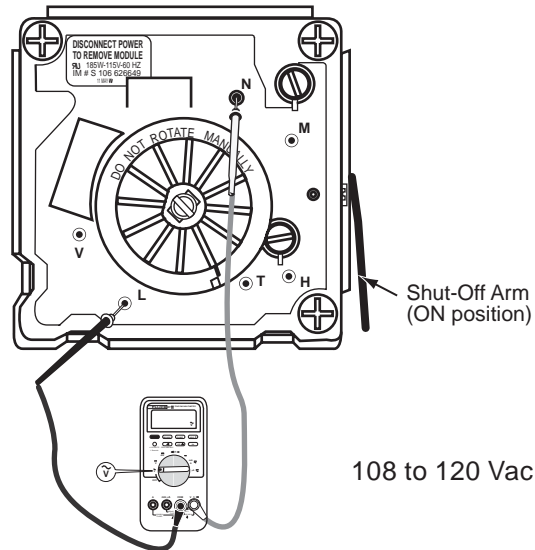

Figure 51. Test points L and N.
5. Measure voltage across test points L and N. See Figure 51. Voltage reading should be between 108 to 120 Vac. If no voltage present, check the continuity of the ice maker wire harness.